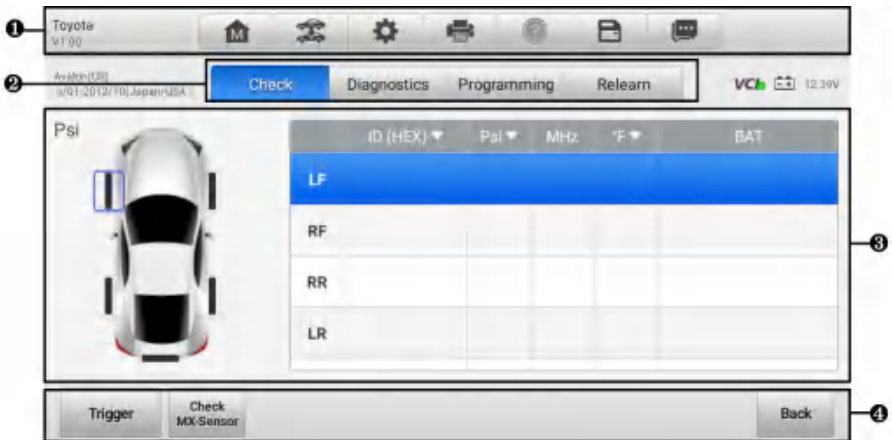

Figure 6-14 TPMS Service Screen
5. Then the TPMS Service Menu will display. See Figure 6-14 TPMS Service Screen.
6. After confirming the vehicle information, tap **OK** to enter the TPMS Service Menu. See Figure 6-14 TPMS Service Screen.
5. Follow the on-screen instructions to confirm the vehicle information and finally enter the TPMS Service screen. See Figure 6-14 TPMS Service Screen.